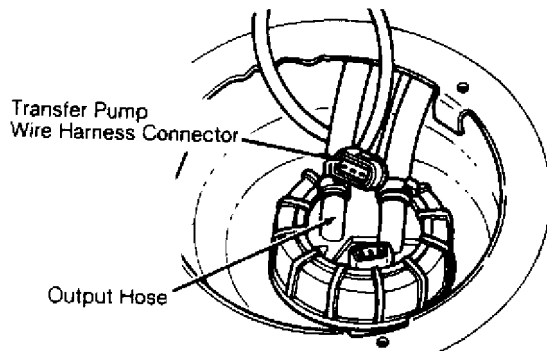

Fig. 2: Checking Transfer Pump Fuel Volume (Typical)
2) Remove fuel pump relay from relay panel. On Corrado and Passat, activate fuel pumps using Remote Control (VAG1348/3A). On all other models, activate fuel pumps using Remote Control (US4480/3). On all models, if pump does not operate, remove transfer pump wire harness connector. See Fig. 2.